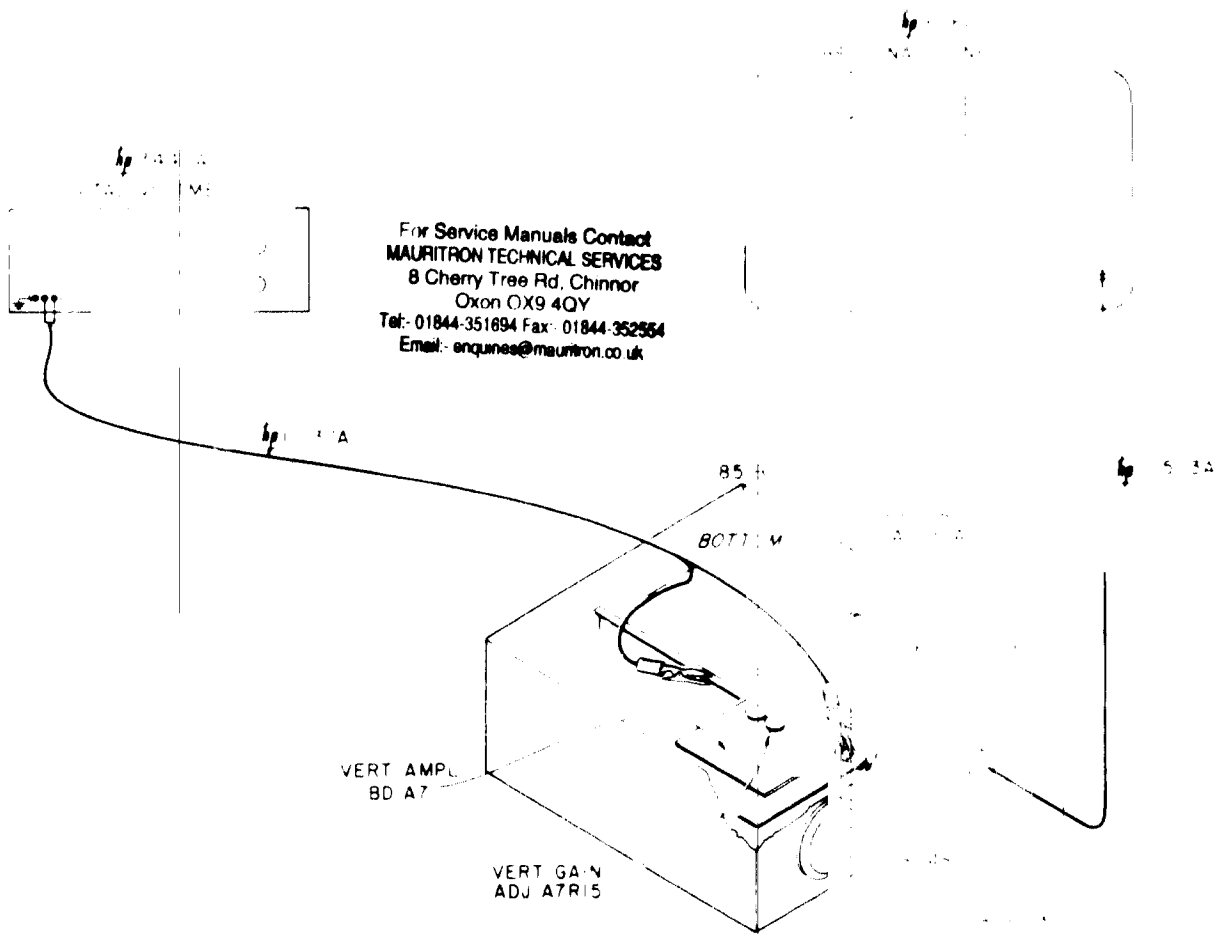
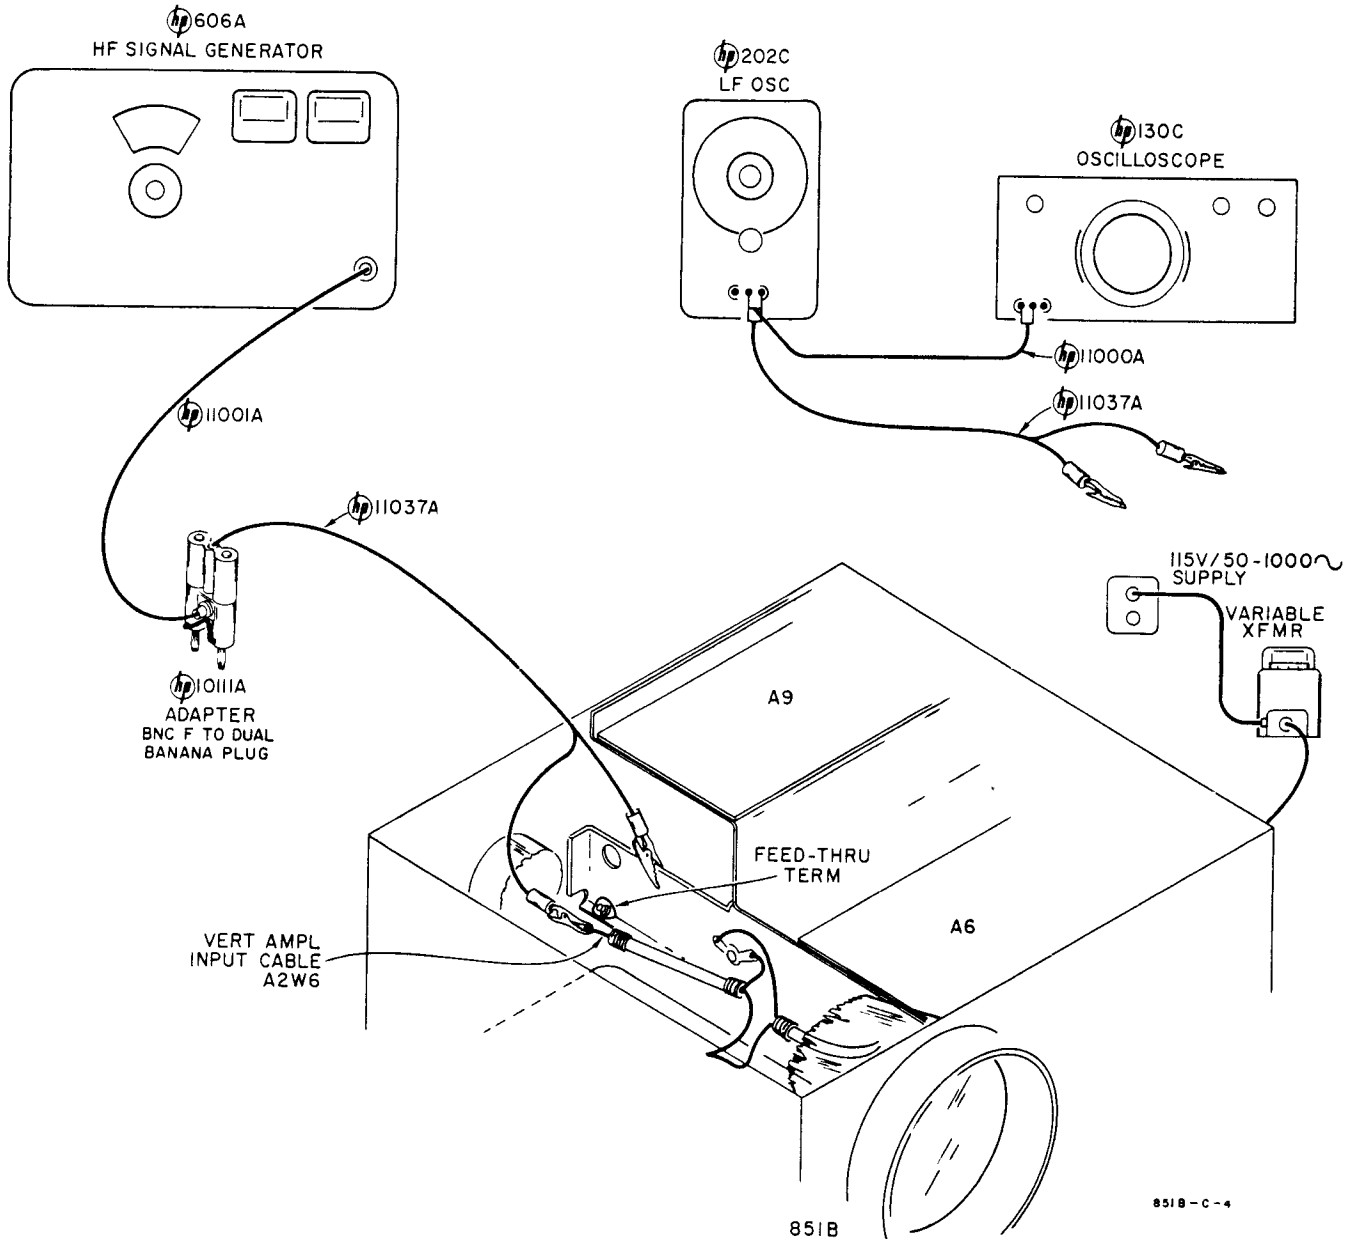

Figure 5-5. Measurement Setup. Calibration of 851 Vertical Amplifier
Figure 5-6. Setup for 851 Video Bandwidth Measurements
b. Measurement setup is shown in Figure 5-5. Connect Voltmeter (digital with automatic range finding capability) at feed-thru terminal (Video Out) at output of RF Circuit Assembly A2. This terminal projects through the casting that encloses Assembly A2, and is identified in Figure 5-6.
- b. Adjust Vert Gain Adj A7R15 (see Figure 5-5) for 6.0 cm vertical deflection on CRT.
- (1) If trace does not return to base line, again adjust VERT POS to align trace with base line.
- (2) Then again perform calibration procedure (steps a, b, and c).
- (3) Continue until requirements of both steps b and c are met.
- a. Disconnect coaxial lead at feed-thru terminal coming out of casting which houses RF Circuit Assembly A2. Connect Signal Generator to this coaxial lead (this lead is Vertical Amplifier Input Cable A2W6 and is identified in Figure 5-6).